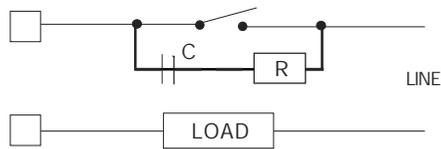

Fig. 12 EXTERNAL SWITCH IN SERIES WITH THE INTERNAL CONTACT
The same problem may occur when a switch is used in series with the internal contacts as shown in Fig. 12.
In this case it is recommended to install an additional RC network across the external contact as show in Fig. 12. The value of capacitor (C) and resistor (R) are shown in the following table: